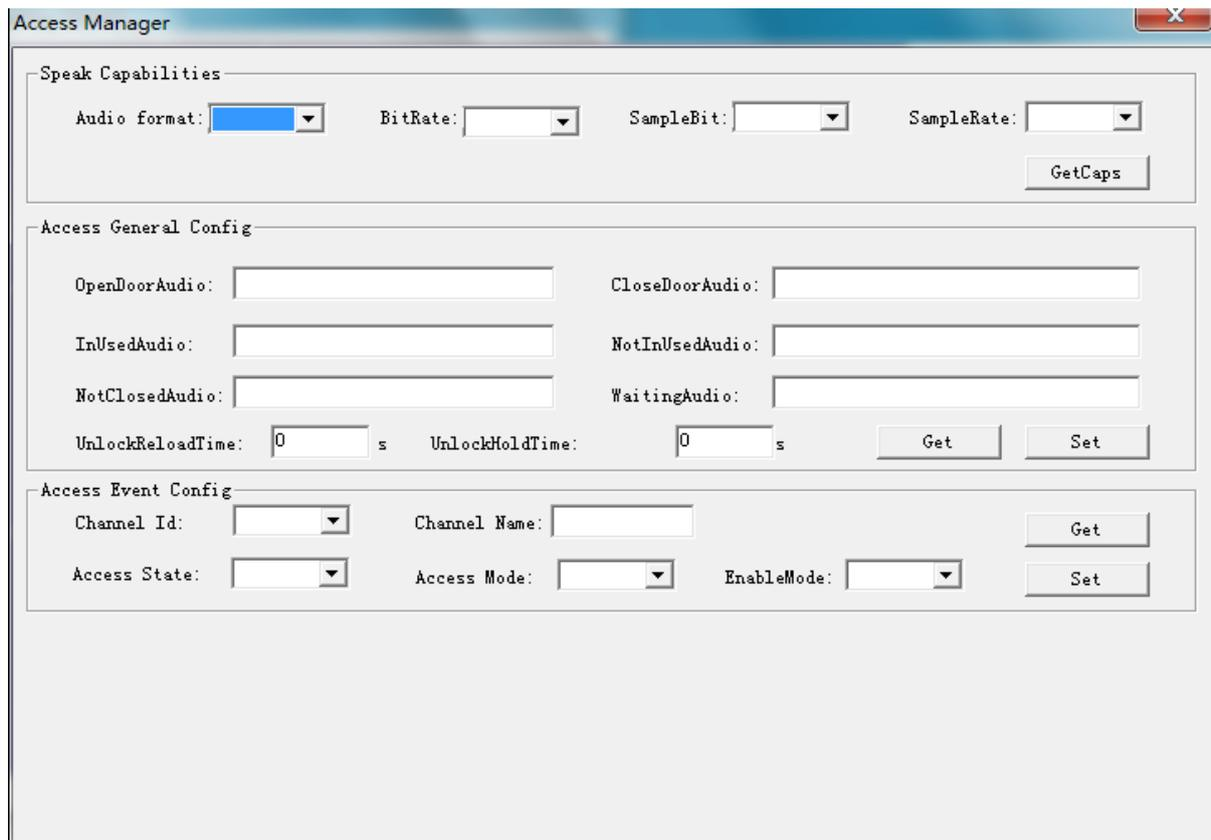

Figure 2- 13
Step 2. Click Set. See Figure 2- 13.